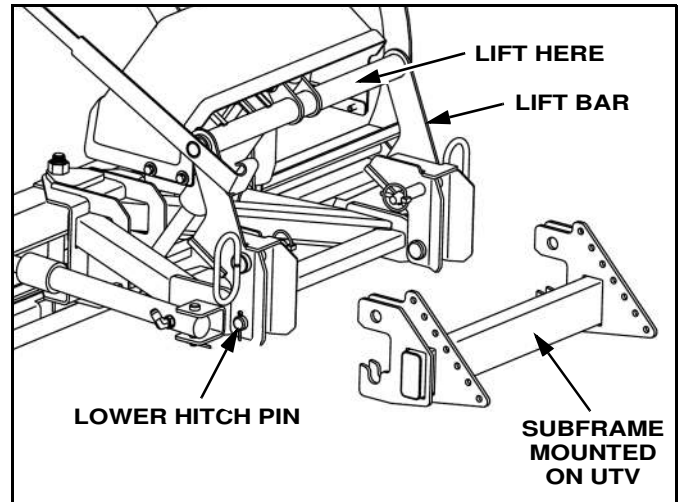

Figure 1-11
1. Drive UTV up to plow. Align lift bar frame outside of subframe lugs. Grab the tube at the top of the lift bar, pick up rear of plow and set lower hitch pins into slot of subframe. (See Figure 1-11).